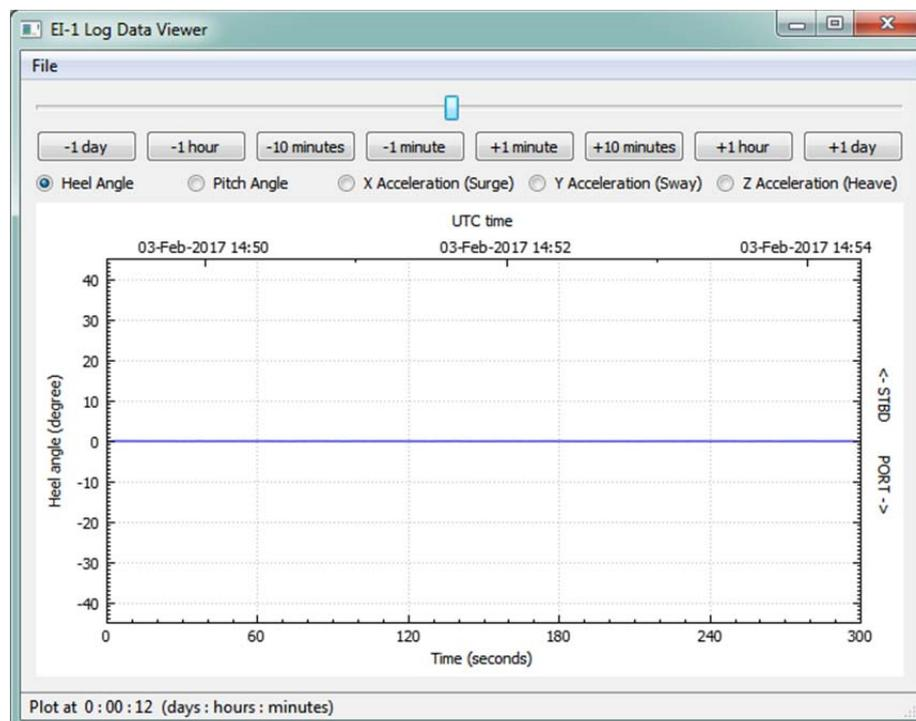

Figure 15: EI-1 Log Data Viewer Software
- Use "EI-1 Log Data Viewer" software to view the downloaded log file, as shown in Figure 15.